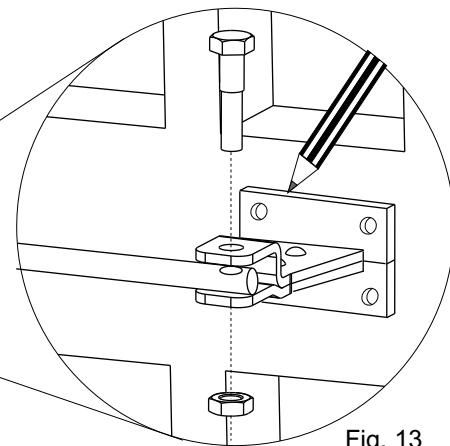

Fig. 13
3. Attach the shaft to the front bracket (Fig. 13)